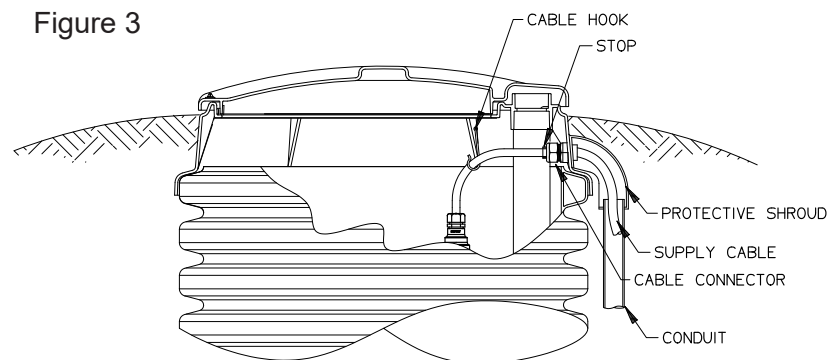

Figure 3
**9. ELECTRICAL CONNECTION: (Pump to Panel) (Fig. 3)** The grinder pump station is provided with a cable for connection between the station and the